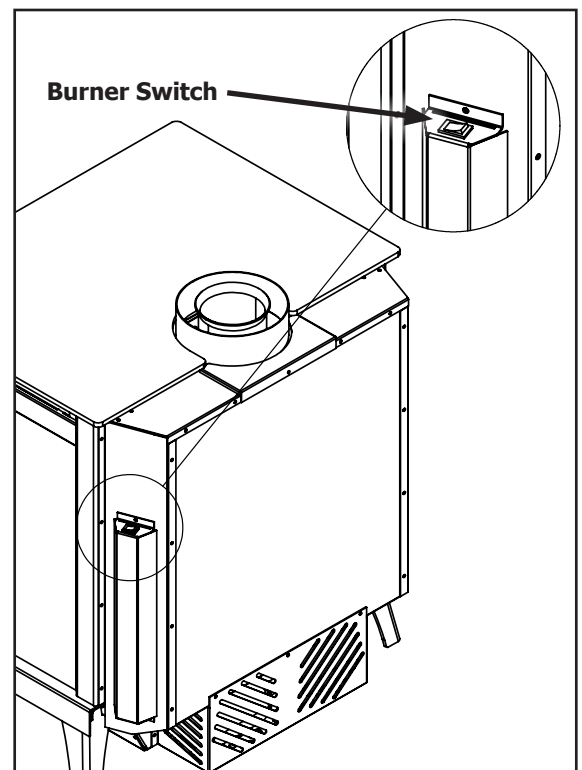

Figure 7. Burner Switch
This fireplace can use an optional remote control or wall thermostat. If either of these are to be used to control the fireplace for the majority of the time, leave the burner switch (Figure 7) in the remote/thermostat position. Consult the instructions included with the remote/wall thermostat for operation guidelines.
- C) Flip the burner switch, located at the top right rear of the S40, to ON (see Figure 7)